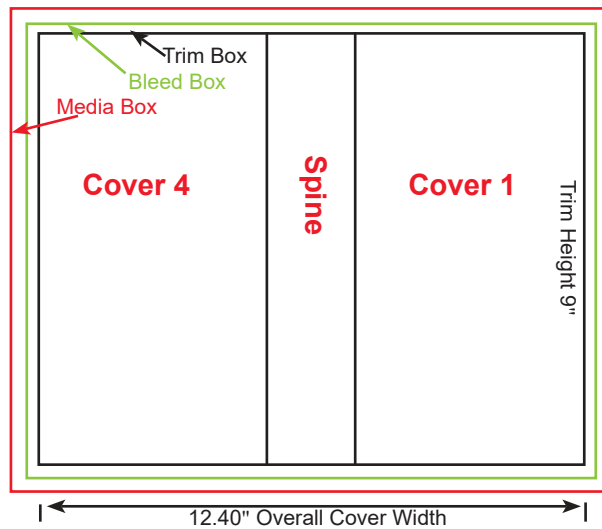

Figure 3
- File must be created in a spread format with adequate spine bulk assigned. Contact your CSR for a specifically measured layout to setup a soft cover file. (See Figure 3)
- File spreads must be setup in Landscape. (See Figure 3 and 4)
- PDF Trim Box must be to the same height trim measurements as the text pages. The trim width will be two times the same width measurements as the text pages plus the spine width required based on bulk of paper chosen to print on. (See Figure 3 and 4)
- Any bleed elements must extend 1/8" past the trim box. (See Figure 3 and 4)
- Media box must be set at least 1/4" larger than the trim box. (See Figure 3 and 4)